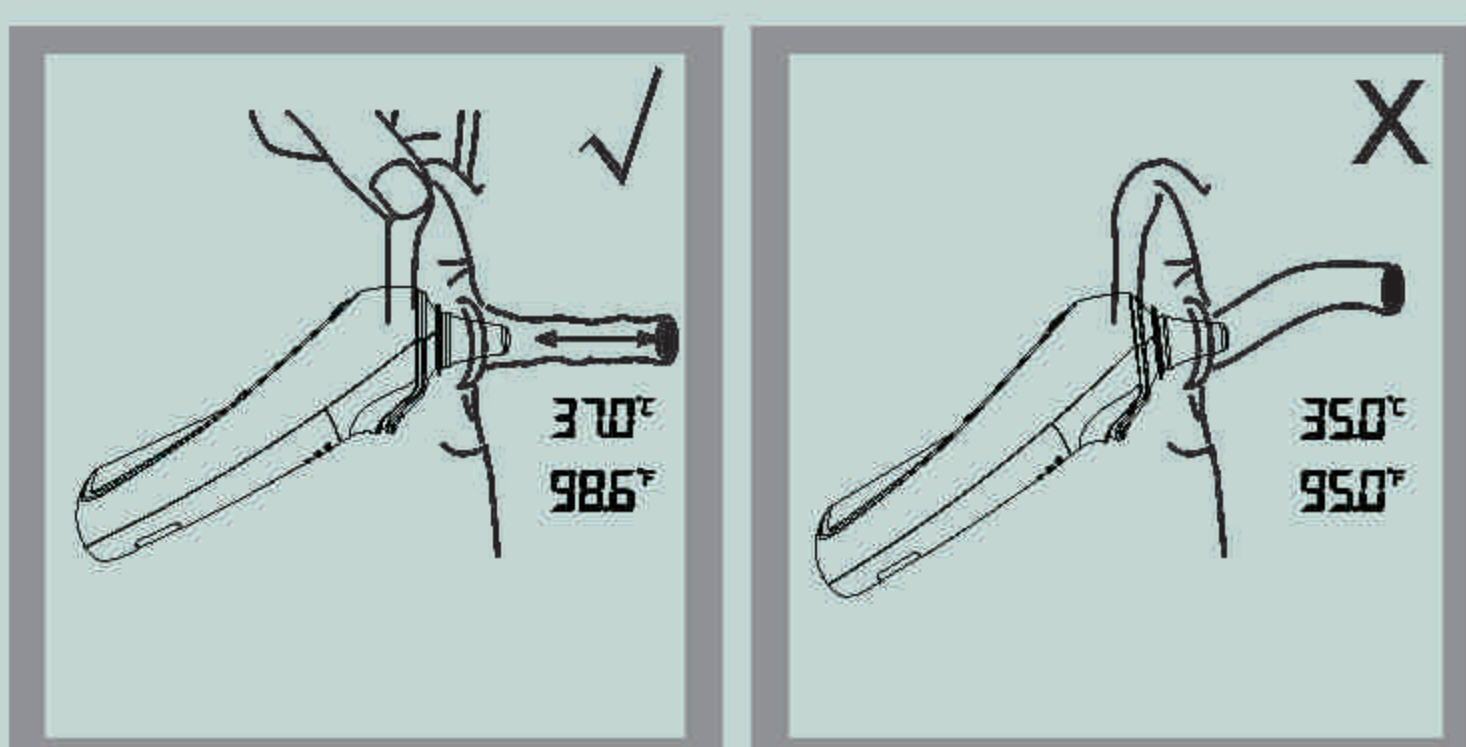

Figure 4
3. Insert the probe along the ear canal as deep as possible into the ear as depicted in Figure 4. Then press the **TEST BUTTON** once to start the measurement. A long beep will sound approximately 1 second after the **TEST BUTTON** is activated. This signals the end of the process as results are displayed on the LCD screen.